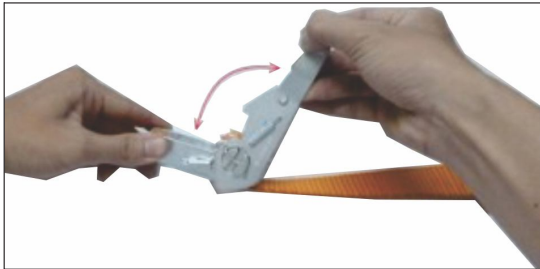
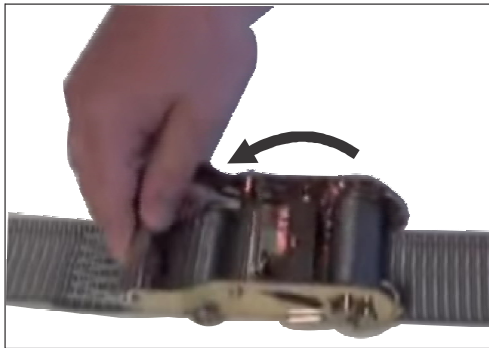

Figure 3.4
Figure 3.5
- Once the slack has been removed, start ratcheting the tension to keep the strap straight (Figure 3.4). Be sure to repeat at least 3 times to secure the strap. When reached the desired tension lock the ratchet down to its closed position (Figure 3.5).